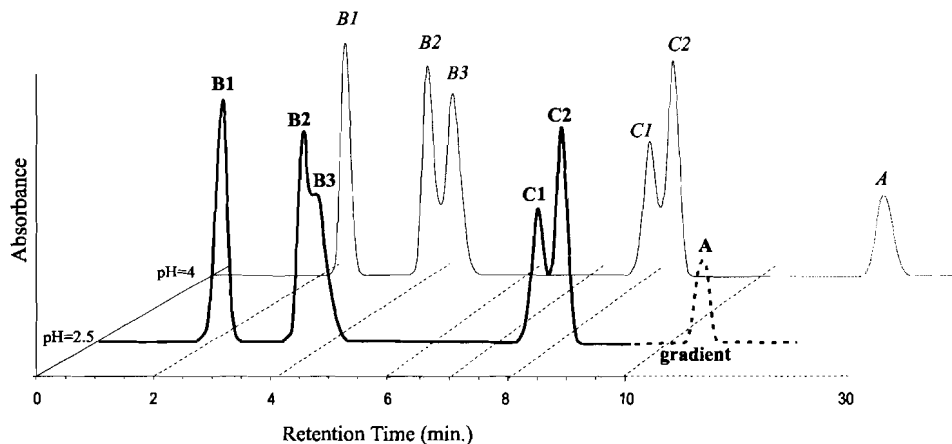
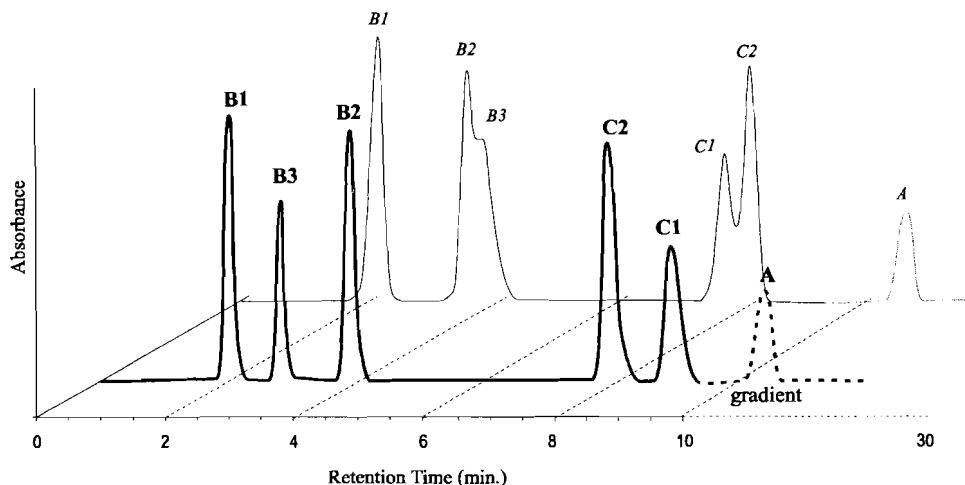

Figure 5-12. Top chromatogram: pH 4.0; bottom chromatogram: pH 2.5.
Figure 5-13. Top chromatogram: pH 2.5; bottom chromatogram: pH 2.0.
- The decrease in pH from 4.0 at step 3 to 2.5 (Fig. 5-12) further decreased the retention of the three basic components B1, B2 and B3. Their decrease in retention is dependent upon their ionization. B2 and B3 are starting to co-elute.
Step 6. Further decrease the pH to see if better resolution between the basic compounds is obtained. The change in pH should be small since small pH changes could cause large changes in retention of the basic compounds. The pH of the mobile phase can then be adjusted to pH = 2 with dilute perchloric acid and we get the resulting chromatogram in Fig. 5-13.
As was seen in Fig. 5-12 (pH 4 and pH 2.5) and Fig. 5-13 (pH 2.5 and pH 2.0), the retention of the basic compounds B1 and B3 decreased, indicating at these pHs the compounds were not fully protonated. In order for this ion association to cause a noticeable increase in the retention of the basic analytes, the basic compounds must be fully protonated. The basic analytes are solvated by the water and solvent molecules to a greater extent when fully protonated than when in their neutral forms. Partially ionized basic analytes contain some of their neutral form as well as their protonated form, and this ion association effect will not be the predominating factor in determining the retention. The decrease in retention for compounds B1 and B3 was governed by ionization. As the pH decreased, the compounds were becoming more ionized, more polar, and were less retained. The increase in the pH range 2.5–2 for compounds B2 and C2 is governed by ion association.